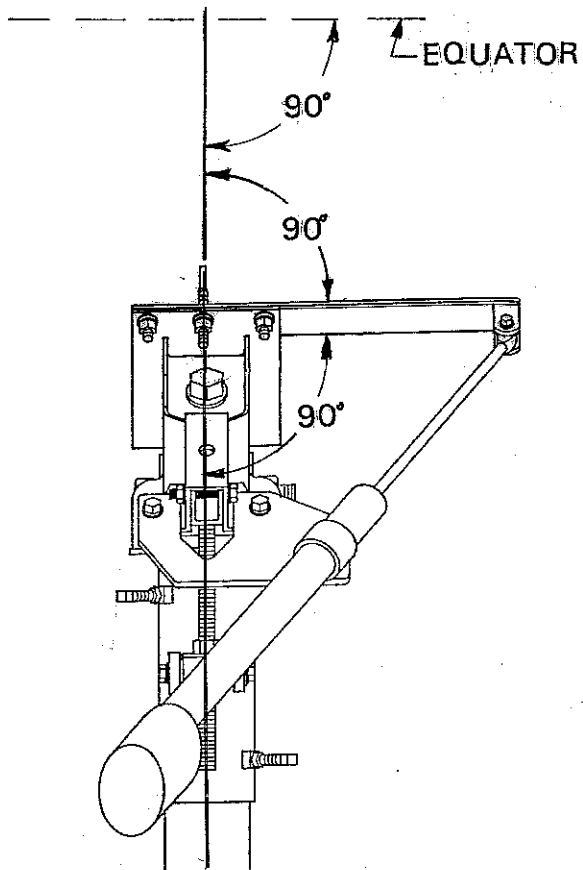

FIGURE 3.0-1
This section covers two steps in the alignment procedures: A: Pre-alignment and B: Alignment to Satellite Orbital Arc. Refer to figures 3.0-1 thru 3.0-3 and follow the instructions in the listed sequence.
**STEP 3:** Position the reflector to look straight ahead (horizontally), by extending the actuator. See figure 3.0-1.